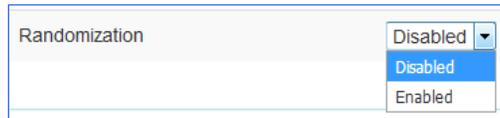

Figure 105: Data Generator, Randomization Drop Down Menu
- Randomization – Enable or disable IRIG 106 15-bit randomization, as shown in Figure 105; *not recommended for PN15 data*, due to potential conflict between the sequence generator and the randomizer, both of which are based on the same generator polynomial